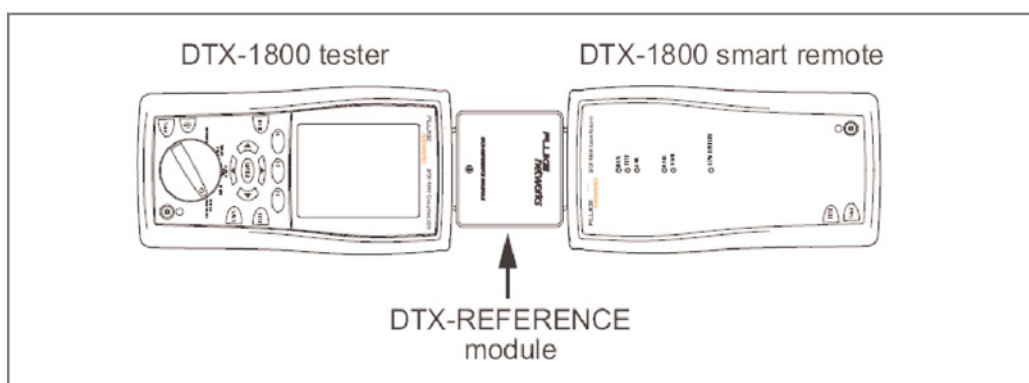

Figure 1. Reference Connections for the Class F Test Limit
1. Connect the DTX main and remote units together with the DTX-REFERENCE module as shown in Figure 1.
7. If a fiber module is installed, select **Link Interface Adapter** on the next screen. The **Set Reference** connection screen shows the main and remote units connected with the permanent link and channel adapters; however, the Class F reference procedure uses the DTX-REFERENCE module as shown in Figure 1.